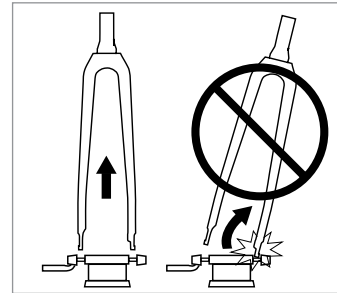

Figure 8
2. When removing the fork from the clamping device make sure to pull/push straight up allowing the dropouts to be removed evenly and at the same time. Do not tilt the bike to remove it from the clamping device, as dropout damage can result (Fig. 8).